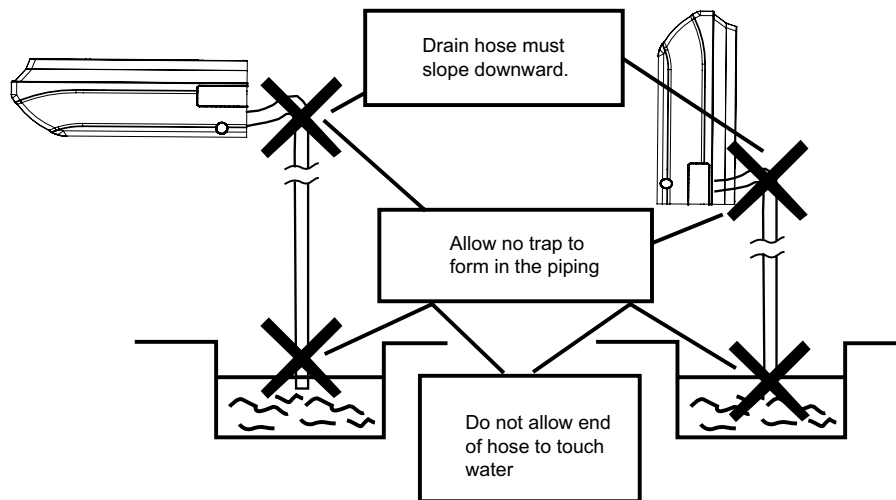

Figure 3-1-32
(4). Connect the drain hose.(Figure 3-1-32)